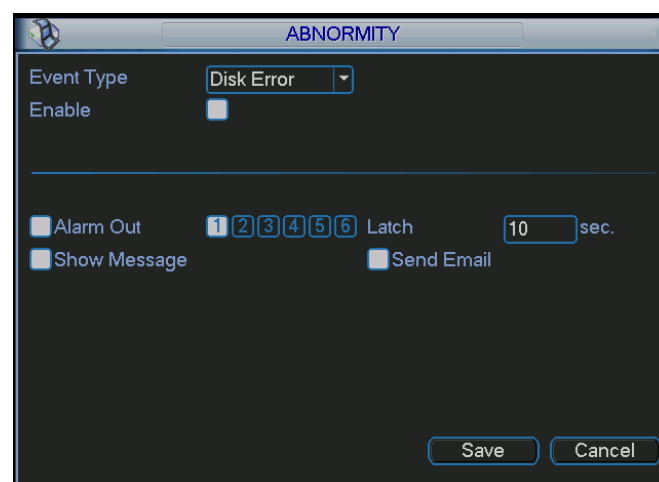

Figure 5-46
- Alarm set: Click alarm set button, the interface is shown as below. See Figure 5-46. (This interface is just like the abnormality setup). Please refer to chapter 5.5.2 for detailed information.